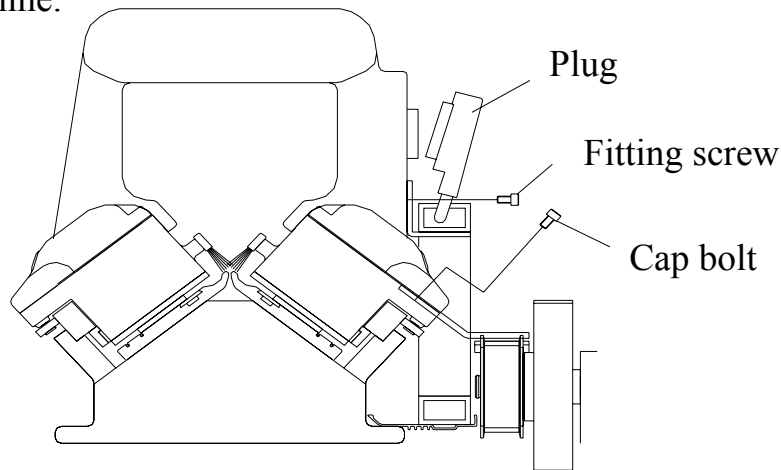

Fig.7.1 Remove the carriage
- ① Turn off the power firstly.
- ② Remove the side cover.
- ③ Disconnect the two plugs on back of carriage.
- ④ Remove the fitting screw and cap bolt on connecting plates as shown in Fig.7.1. Then pay attention to remove the carriage.
- ⑤ After replacing the carriage, it must be confirmed that the plugs, fitting screws and cap bolts are all completely connected, then start machine.